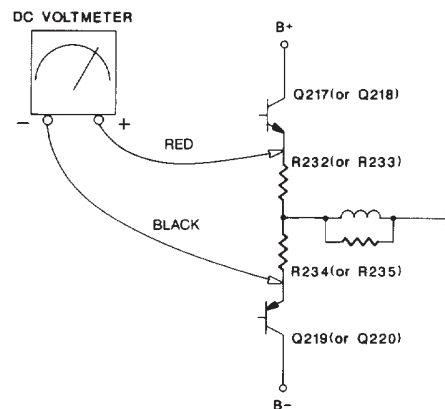

Figure 9. Setting the Bias with DC Voltmeter
2. Attach the RED probe lead from the DC voltmeter to the junction of R232 (0.27 Ω emitter resistor) and the emitter of Q217. Refer to Figure 9.